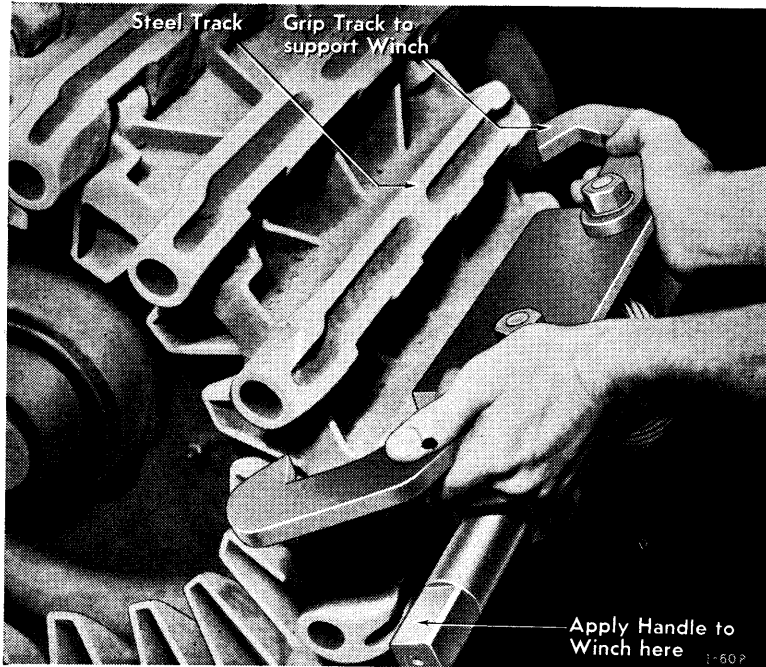

Fig. 46. Clamping winch into side recesses of track
2. Place the track strainer, tool No. 1-11015 on the track at the tensioning wheel end as shown in Fig. 46. letting the holding arms fall into the pockets at the